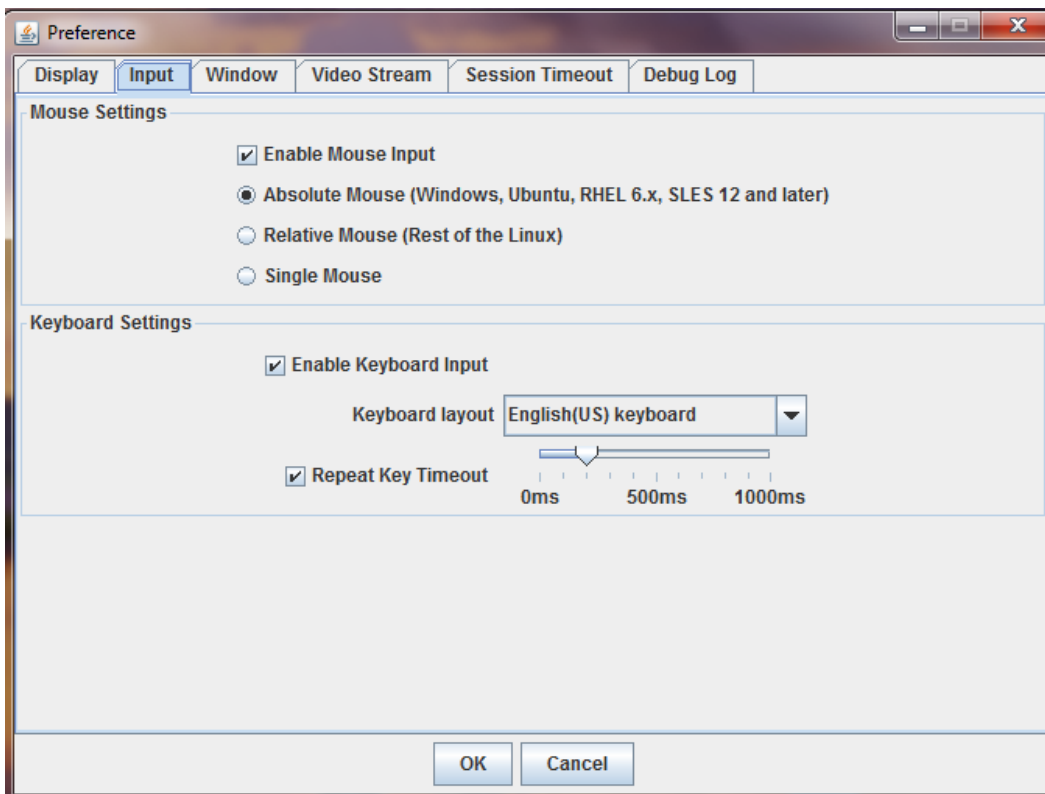

Figure 26. Remote Console Input Settings
- **Input (Figure 26)** – Enable/disable mouse/keyboard input, change the mouse mode, specify keyboard layout, and set repeat key timeout.